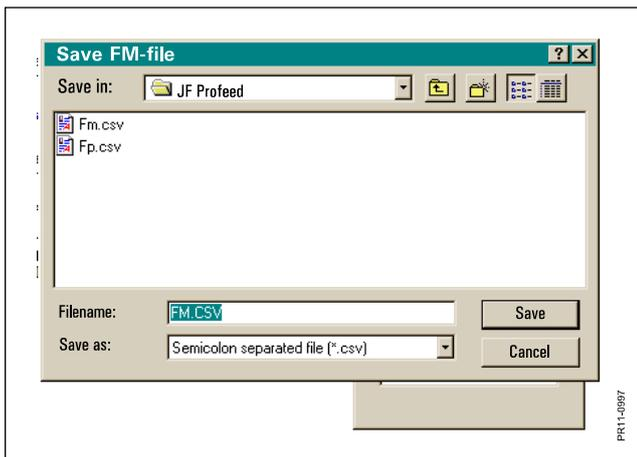

Fig. 7.10
**Fig. 7.10** This menu point is chosen to have data transferred to the PC. In order to use this point the data first has to be transferred from the PROFEED system to the infrared hand transmitter.